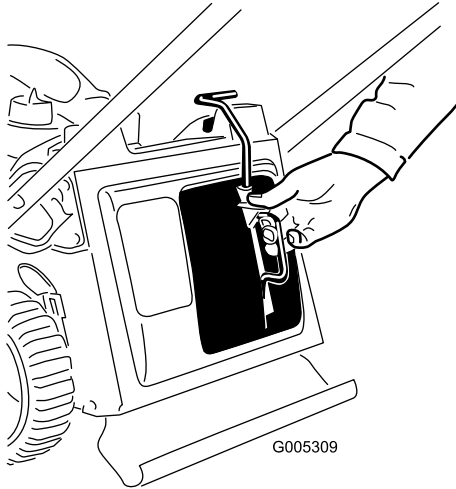

Figure 29
1. Remove the recycle plug (Figure 29).